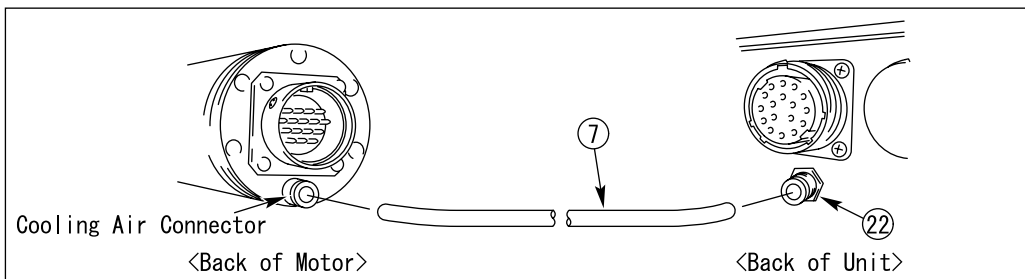

Fig 11
- 1) Connect one end of the Air Hose for Motor Cooling (7) to the cooling air connector on the back of the motor and the other end to the Cooling Air Output Connector (22) on the back of the unit as shown in Fig 11.